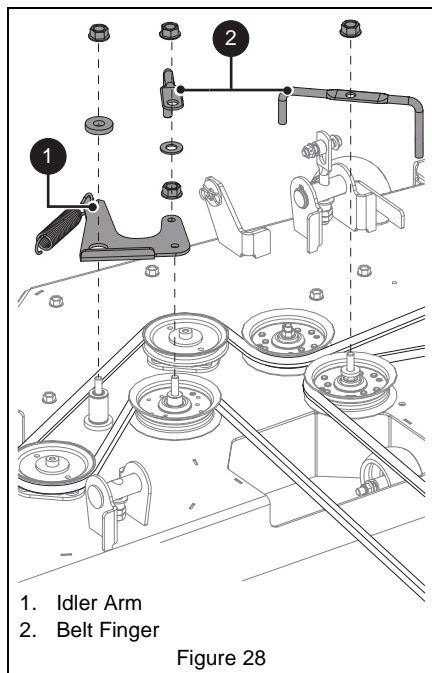

Figure 28
3. Remove hardware retaining idler arm and two belt fingers from mower deck and remove idler arm and belt fingers. Retain all parts for reinstallation. See Figure 28.
2. Reinstall idler arm and belt fingers. See Figure 28.